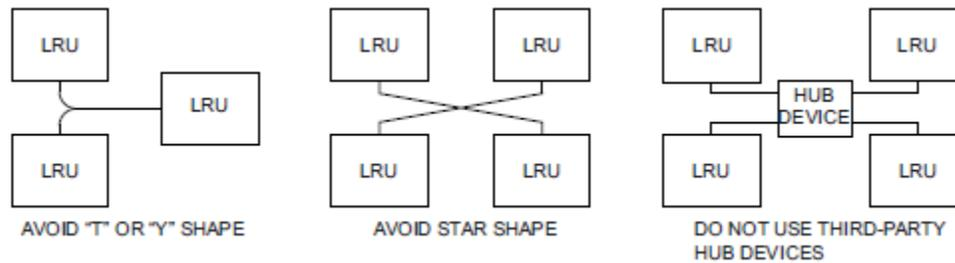

Figure 5-1 Incorrect CAN Wiring Example
- 1) Ensure the CAN bus is daisy-chained between CAN devices around the system, and CAN devices are not connected via a single point or routed through a hub device (Figure 5-1). This can cause unwanted signal reflections and “orphan” some devices on the bus and prevent their communication.